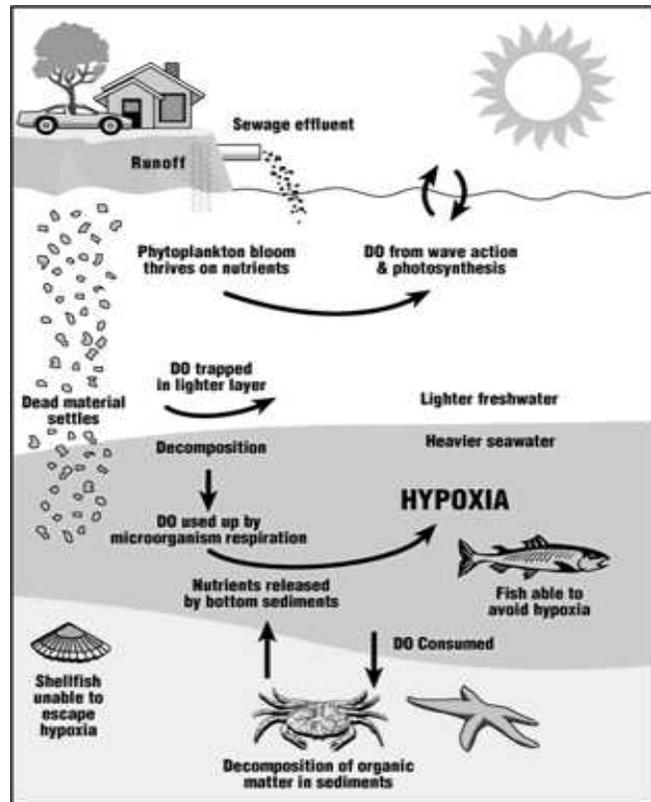

Figure 4-1. Processes affecting dissolved oxygen levels (from *Volunteer Estuary Monitoring: A Methods Manual, Second Edition*).
Oxygen found in aquatic systems is dissolved in water. This dissolved oxygen (DO) enters the systems from the atmosphere and from photosynthesis of aquatic plants (Figure 4-1). Currents and waves help introduce oxygen into the aquatic system due to more water being in contact with the atmosphere and better mixing of surface and deeper waters.
Dissolved oxygen concentrations are affected by a number of variables such as time of day, depth, temperature, and salinity. Typically, DO concentrations of surface samples are highest around mid-day due to photosynthetic activity of aquatic plants. During the night, DO concentrations decline as DO is consumed through respiration while photosynthesis is halted due to the lack of sunlight. Therefore, DO levels are typically lowest in the early morning. Salt water cannot hold as much DO as fresh water (Figure 4-1). Lower DO concentrations are expected during the summer, since warm water cannot hold as much DO as cold water.